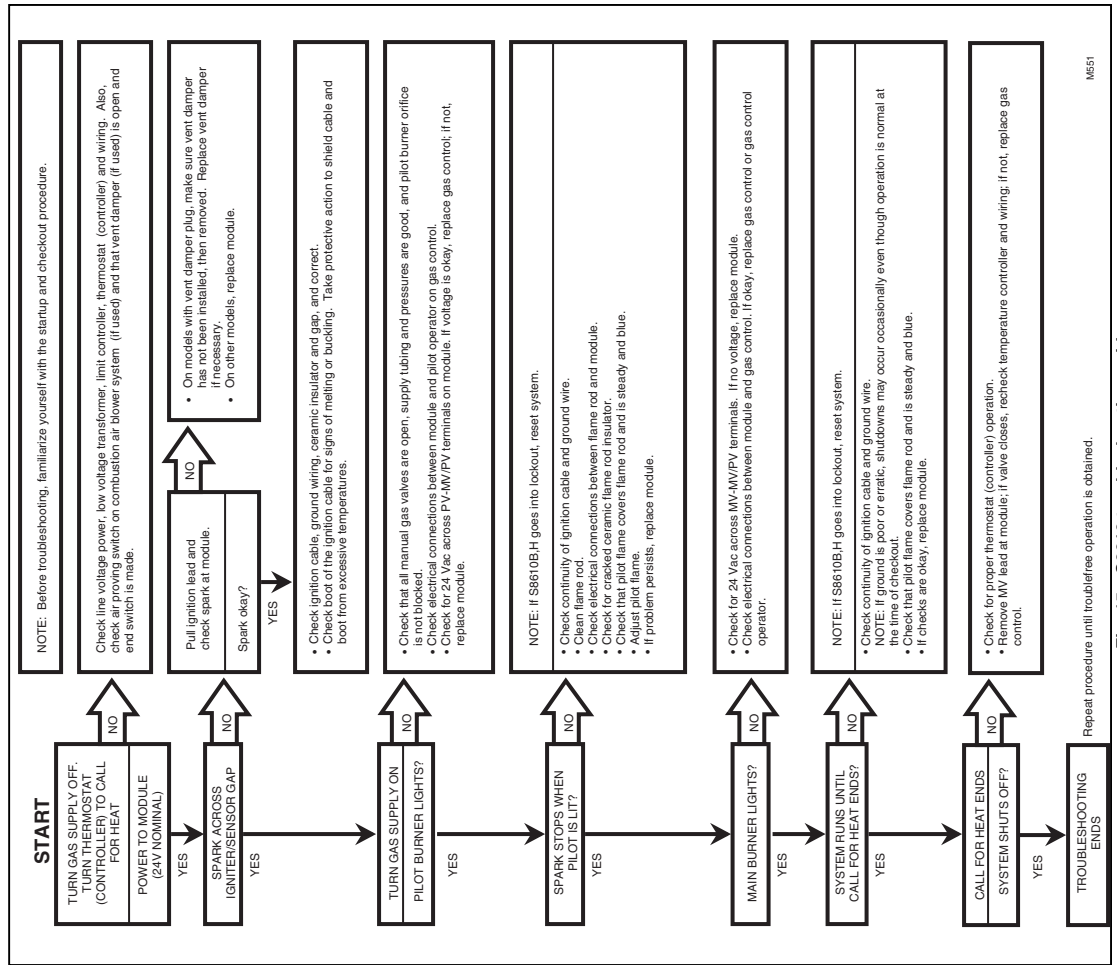
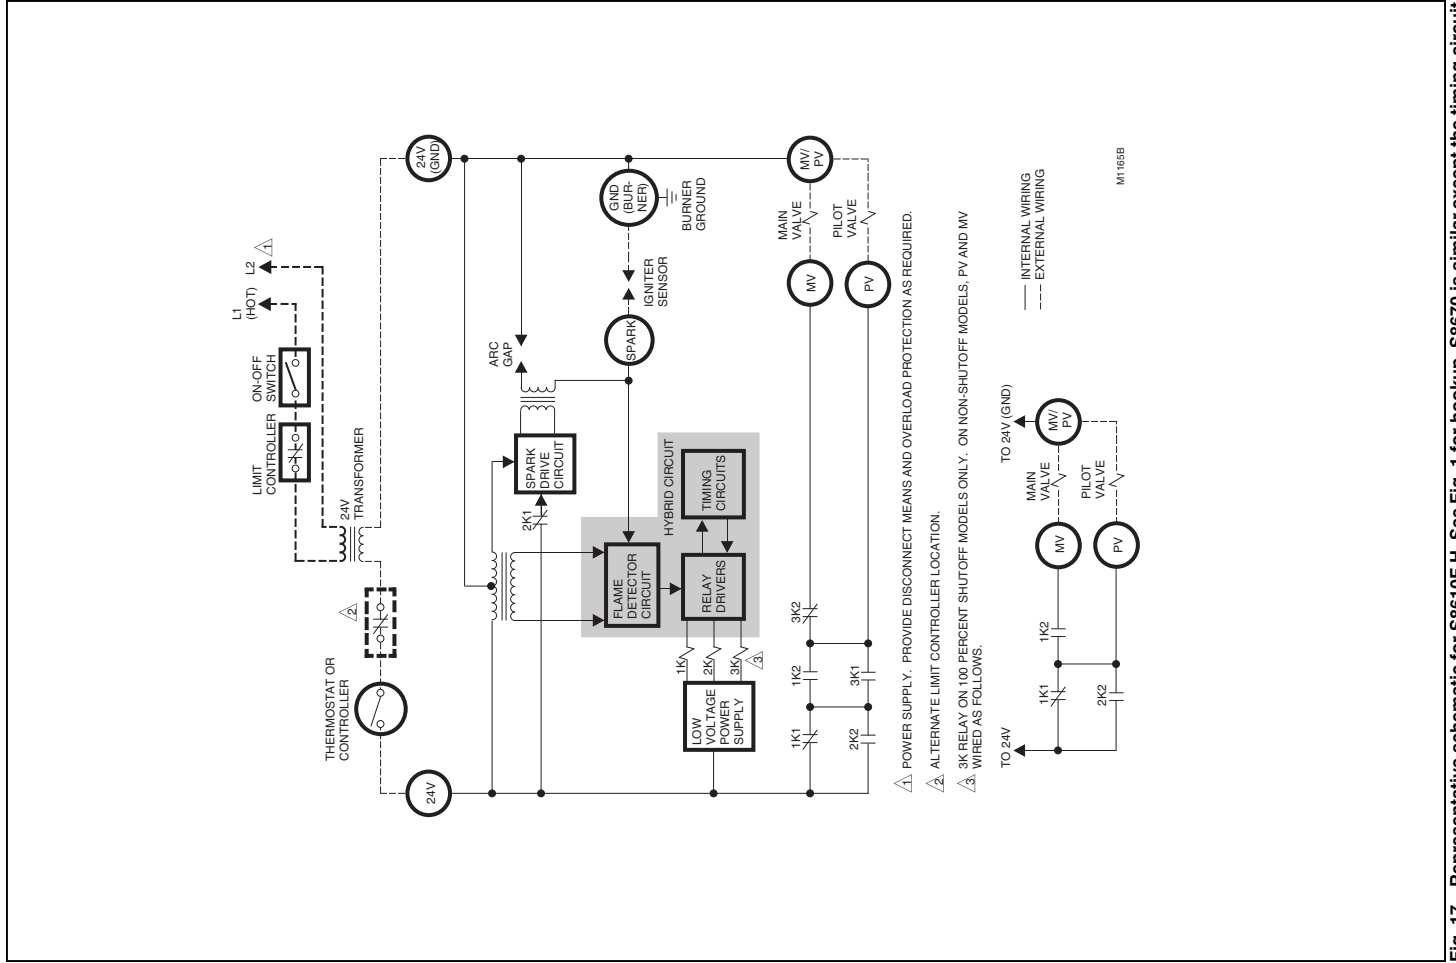

Fig. 15—S8610 troubleshooting guide.
Fig. 17—Representative schematic for S8610F.H. See Fig. 1 for hookup. S8670 is similar except the timing circuit includes a purge timer. See Fig. 6 for hookup.
Perform the checkout on page 12 as the first step in troubleshooting. Then check the appropriate troubleshooting guide (Fig. 15 or 16) and the schematic diagram (Fig. 17 or 18) to pinpoint the cause of the problem. If troubleshooting indicates an ignition problem, see Ignition System Checks below to isolate and correct the problem. Following troubleshooting, perform the checkout procedure (page 12) again to be sure system is operating normally.
- If main burner doesn't light or if main burner lights but system locks out, check module, ground wire, and gas control as described in appropriate troubleshooting chart, Fig. 15 or 16.